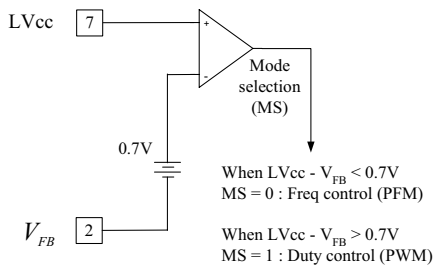
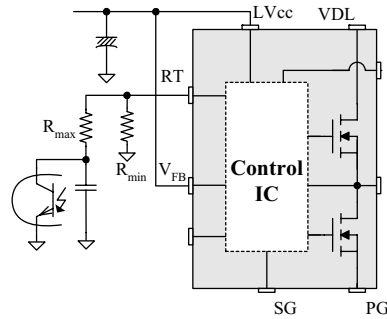

Figure 7. Mode Selection Block
Figure 8. PFM configuration
2. Operation mode selection: FSF-series is designed to operate in PWM (Pulse-Width-Modulation) mode or PFM (Pulse-Frequency-Modulation) mode according to the circuit configuration. Figure 7 shows the internal mode selection block. The operation modes are determined by the voltage difference between LV_{CC} and V_{FB} . In actual application circuit, PFM mode is selected by directly connecting the V_{CC} pin to the V_{FB} pin as shown in Figure 8.
2.1 PFM control: Figure 8 shows the typical circuit configuration for PFM mode, where the opto-coupler transistor is typically connected to the R_T pin to control the switching frequency with a fixed duty cycle of 50%. The minimum switching frequency is determined as